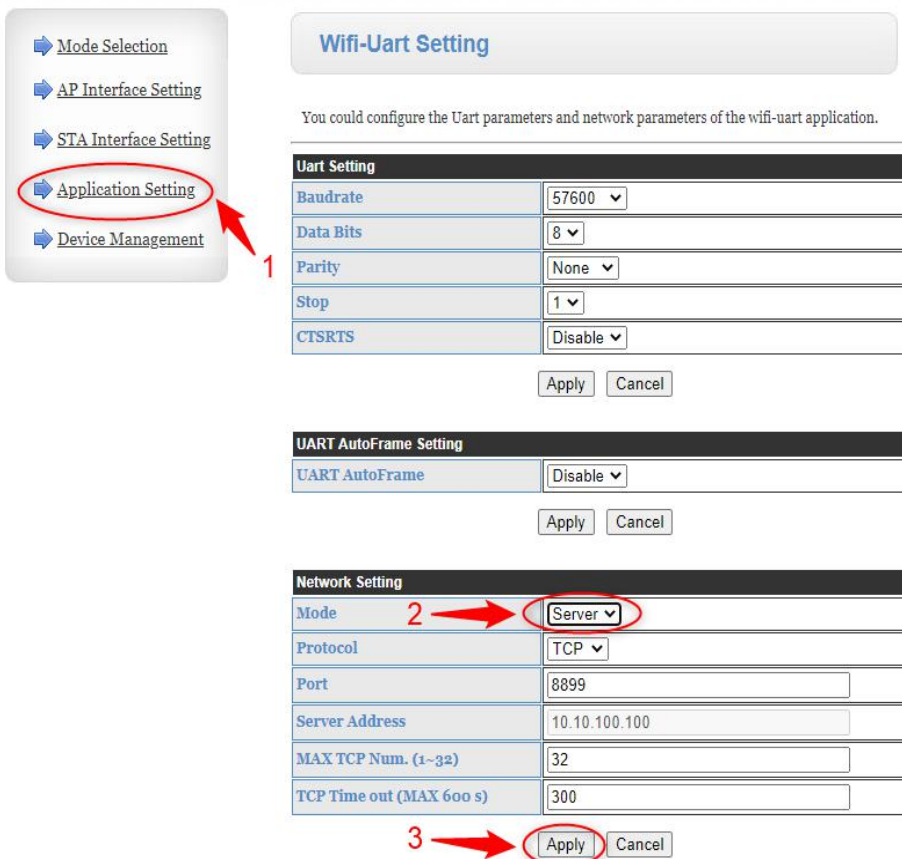

Figure 37
d. Serial port and other settings (as shown in Figure 37)